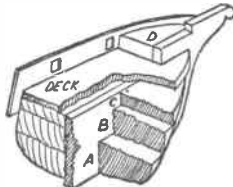

Fig. 3—Constructional details
The upper sides or bulwarks of the ship are shown in outline on the pattern sheet. Two of these are to cut out and glued to the hull pieces as diagram Fig. 3. The small blocks—pieces (D) on the sheet, are glued to the deck and to the upper sides to hold the latter together strongly at the bows.